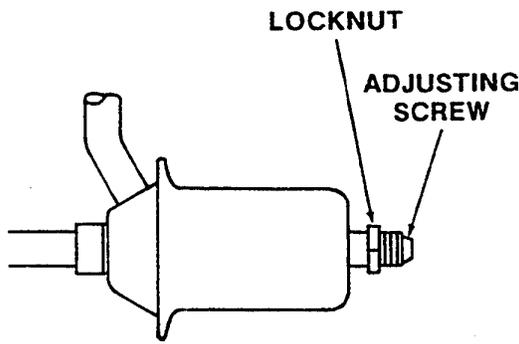

Figure 41. E.P.R. Valve Adjustment
6. Remove the plastic cap and loosen the locknut on the E.P.R. valve. Then, using a small screwdriver, turn the valve stem one-fourth (90°) turn counterclockwise for more cooling or clockwise for less cooling (Figure 41).